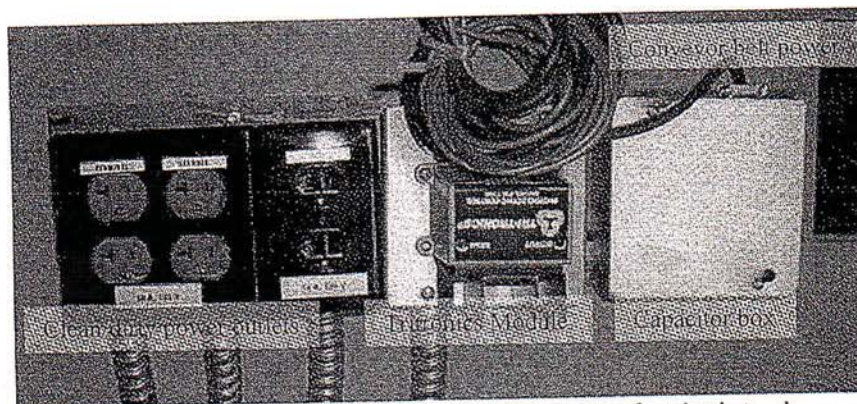

Figure 1 - Example front/ main module electrical setup for checkstands.
3. Disconnect Powerroll lead wires to capacitor box. (See Figure 1.)